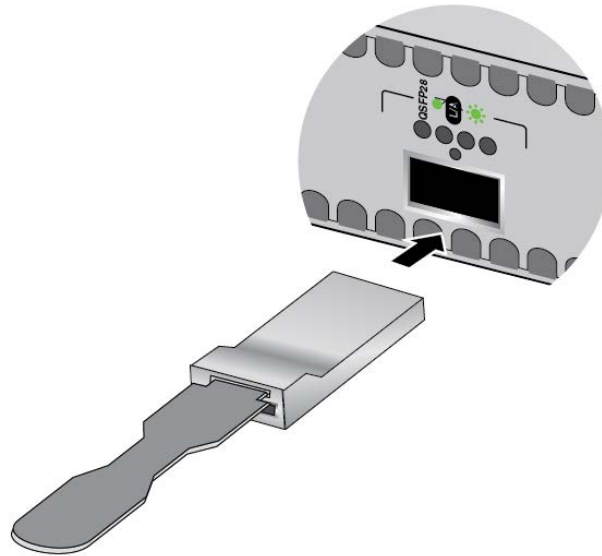

Figure 135. Installing 100G QSFP28 Transceivers in XEM2-1CQ Line Cards
- ❑ 100G QSFP28 transceivers for XEM2-1CQ Line Card: refer to Figure 135.